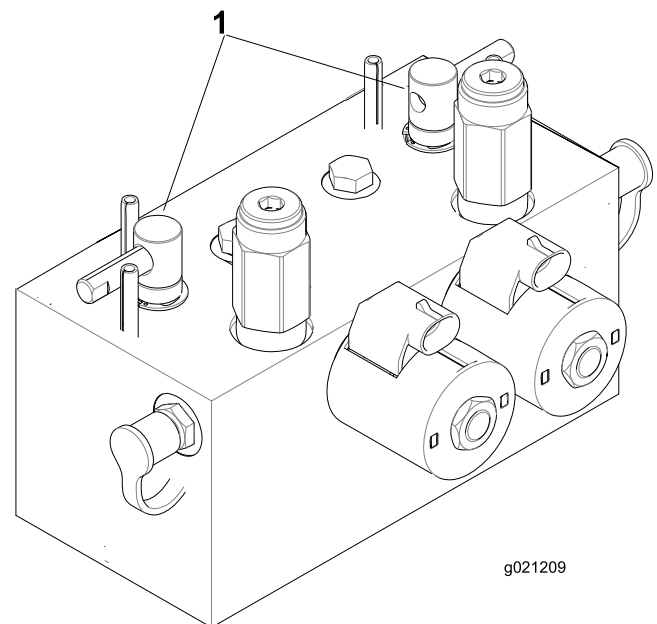

Figure 107
2. Unlock and raise the seat to expose the backlap levers (Figure 107).
5. Select either front, rear, or both backlap levers to determine which units to backlap (Figure 107).